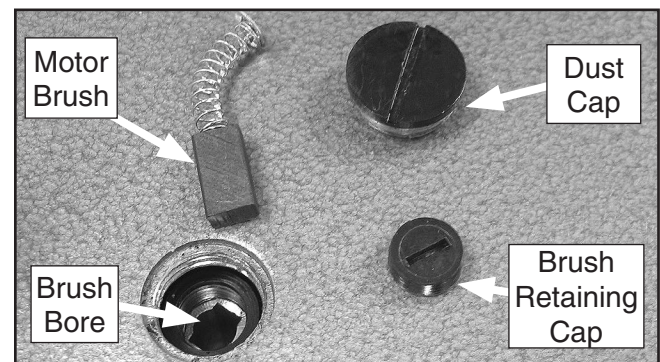

Figure 26. Brush components.
3. Unscrew the brush retaining cap, use needle nose pliers to replace the brush, and reinstall the caps (**Figure 26**).